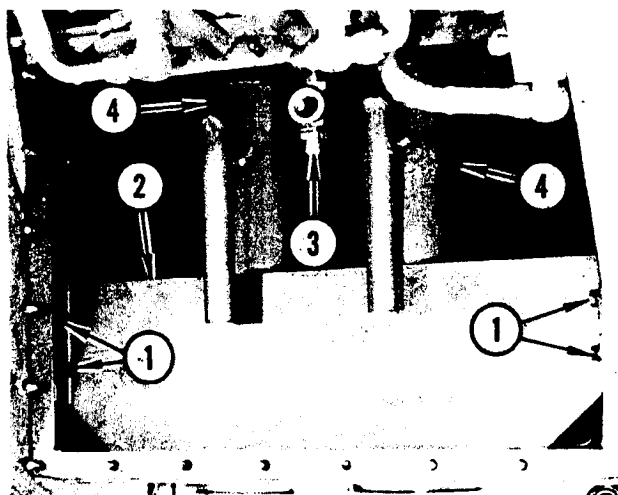

FIGURE 27. RESERVOIR REMOVAL
Refer to Figure 27. Remove the four capscrews and lockwashers (1) and remove the baffle (2). Remove 5 psi relief valve (3). The two filter housings (4) cannot be removed from reservoir. Filter elements are